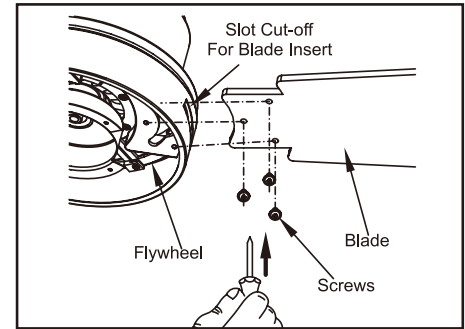

Figure 14
1. Insert the blade through the slot cut-off in the center flywheel, align the three screw holes in the blade with the screw holes in the flywheel and secure with the screws provided. (Figure 14)